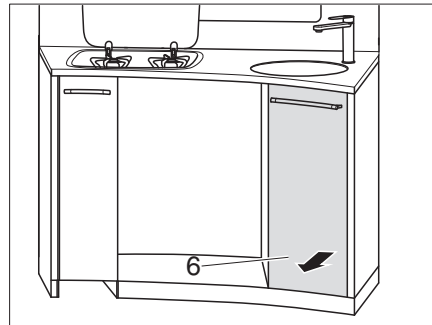

Fig. 127 Removing high kitchen drawers
- Remove the high kitchen drawer (Fig. 127,6).